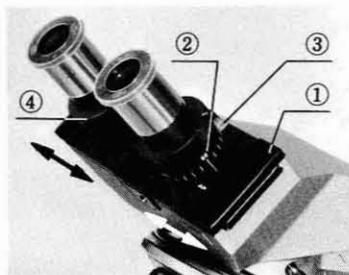

Fig. 2
1) Hold the knurled dovetail slides ① of the right and left eyepiece tubes with both hands and push the tubes together, or pull them apart laterally, whichever is required, while looking through the eyepieces with both eyes, until perfect binocular vision is obtained (Fig. 2).